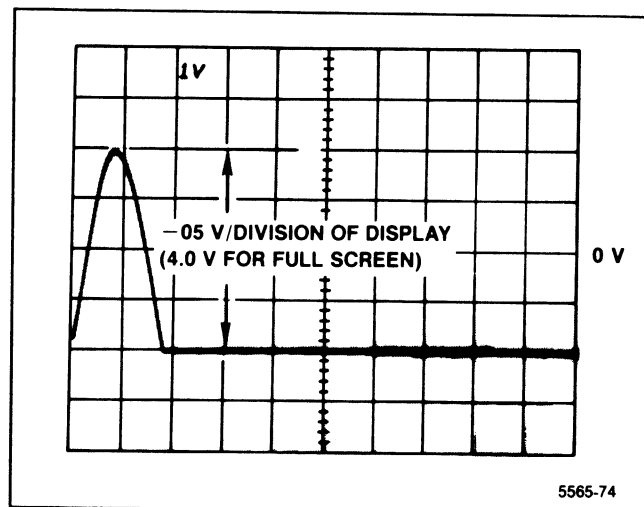

Figure 4-22. Test oscilloscope display of VERT output with a full screen display on the Spectrum Analyzer.
e. Check that the amplitude of the VERT OUTPUT signal is 4 V peak-to-peak  $\pm 0.2$  V centered around 0 Vdc as displayed on the test oscilloscope. See Figure 4-22.